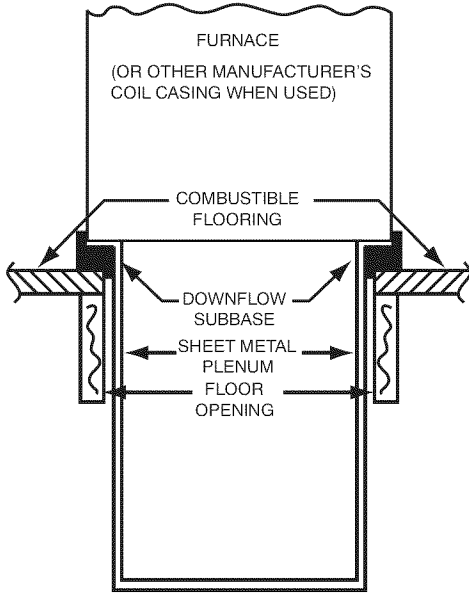

Fig. 23 - Furnace, Plenum, and Subbase Installed on a Combustible Floor A07585
4. If downflow subbase is used, install as shown in Fig. 23.